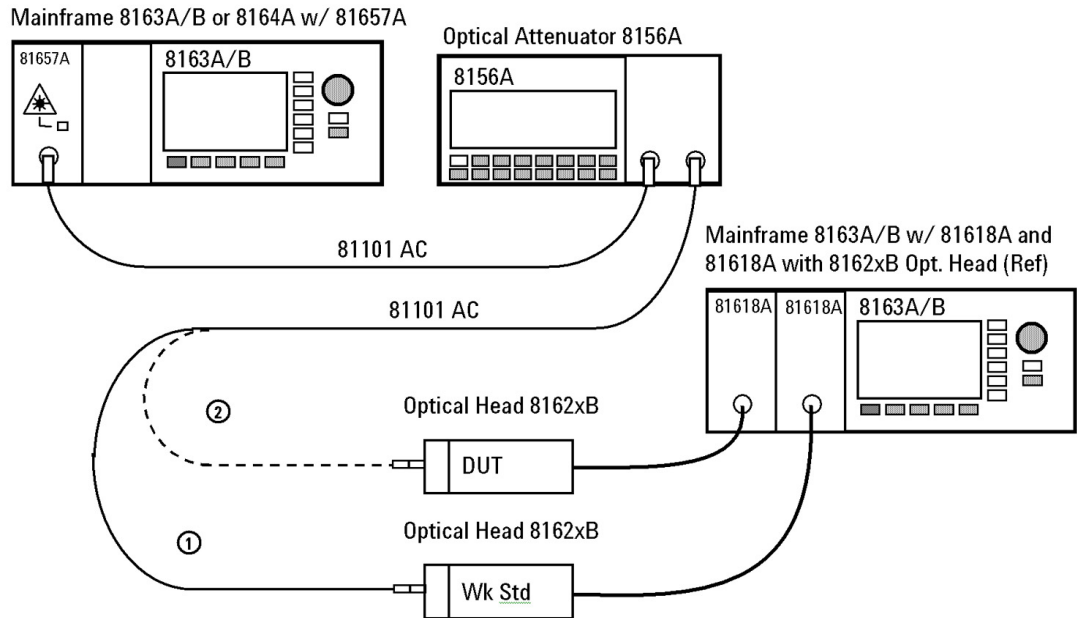

Figure 8 Accuracy Test Setup
- 2 Connect the equipment as shown in Figure 8.